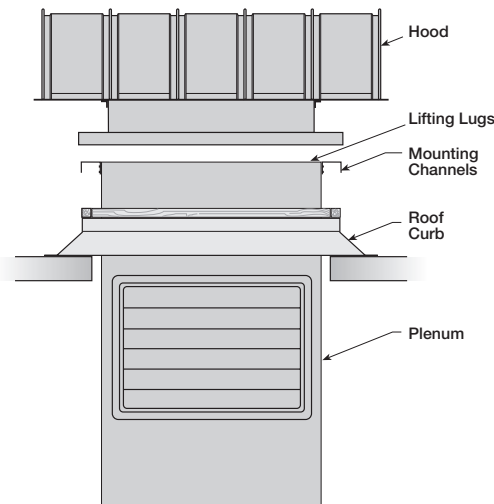

Fig. 1
2. The plenum (factory assembled) is lowered through the curb and roof opening until its mounting channels rest on the roof curb. Lifting Lugs are provided. (Fig. 1)
3. The hood is lowered onto the curb/plenum assembly. (Fig. 1)